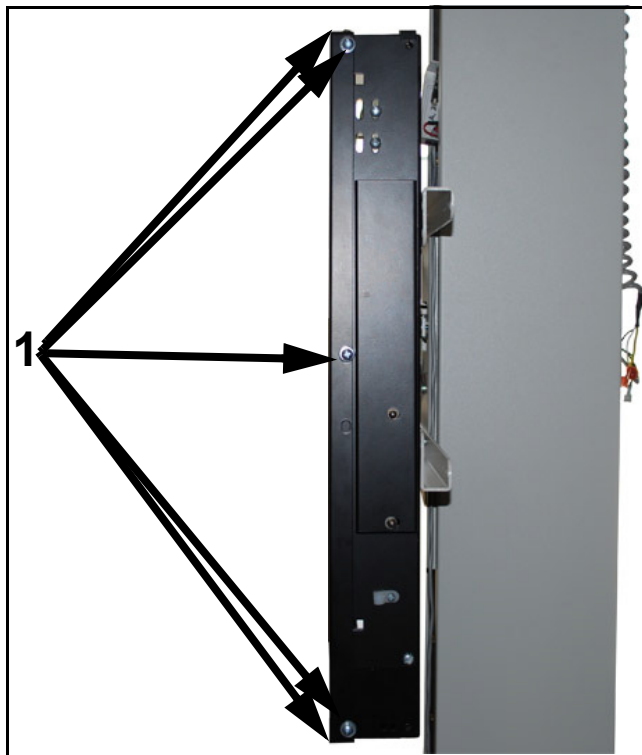

Figure 6-10. Top Cover Screws
- 3** Remove the five screws (1 in Figure 6-10) on the right face plate holder.